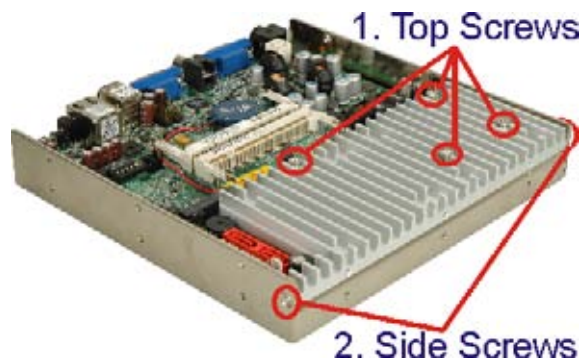

Figure 4-1: Heatsink Removal
Step 1: Undo the top screws. The screws cannot be removed from the heatsink, loosen until completely loose.(Figure 4-1)
Step 2: Remove the side screws.(Figure 4-1)